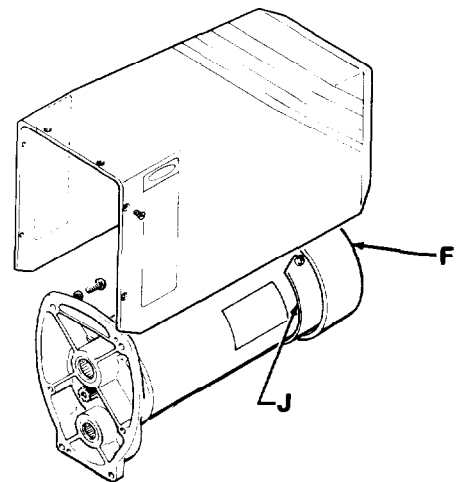

Fig 7
Remove the pressure control cover and screws, the motor cover, the fan cover (F), and the inspection covers (J). See Fig 7.